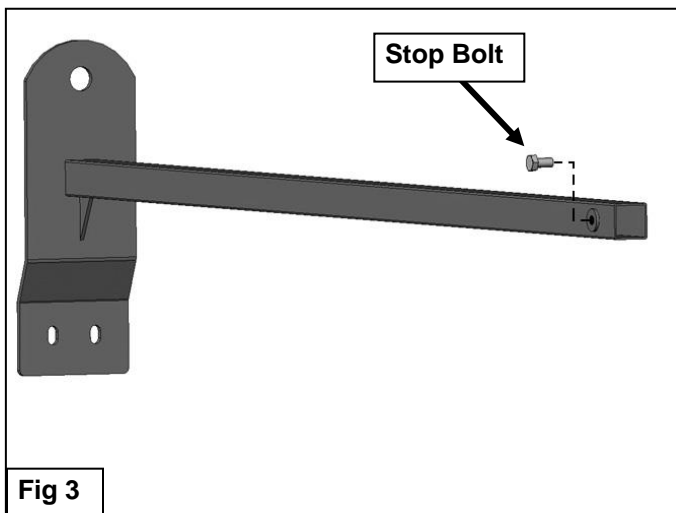

Fig 3
3. Repeat **Step 2** to assemble all (3) remaining Cross Bar inner and outer assemblies.
4. Select (1) inner and (1) outer Cross Bar assembly. Slide (1) Inner Cross Bar into (1) Outer Cross Bar, **(Figure 2)**. Lock in place with (1) 10mm Hex Bolt, **(Figure 3)**. Do not tighten locking bolt at this time.